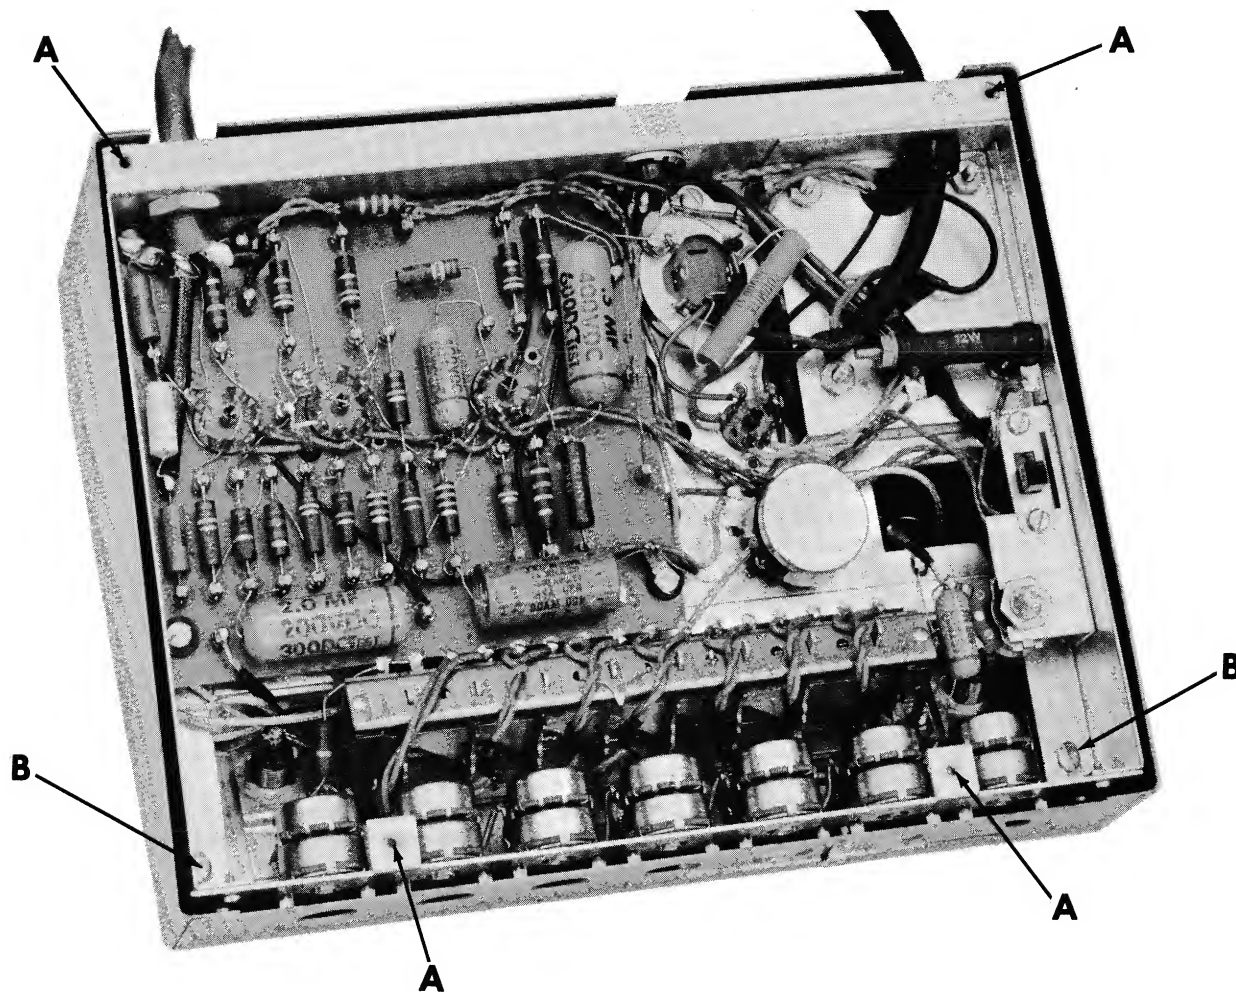

Fig. 5: Bottom view cover removed.
- a. Turn the Amplifier upside down and remove 4 screws holding the bottom cover (see "A" Fig. 5).
- b. Remove 2 screws (see "B" Fig. 5) and set aside.